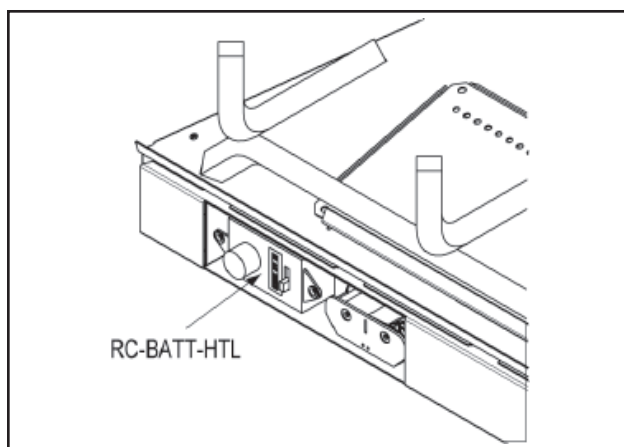

Figure 5 - Receiver Placement - Imperial Log Set
- e. The RC-BATT-HTL is to be positioned, with sensor facing forward, to the left of the battery pack with the Velcro supplied with the remote. See Figure 5.